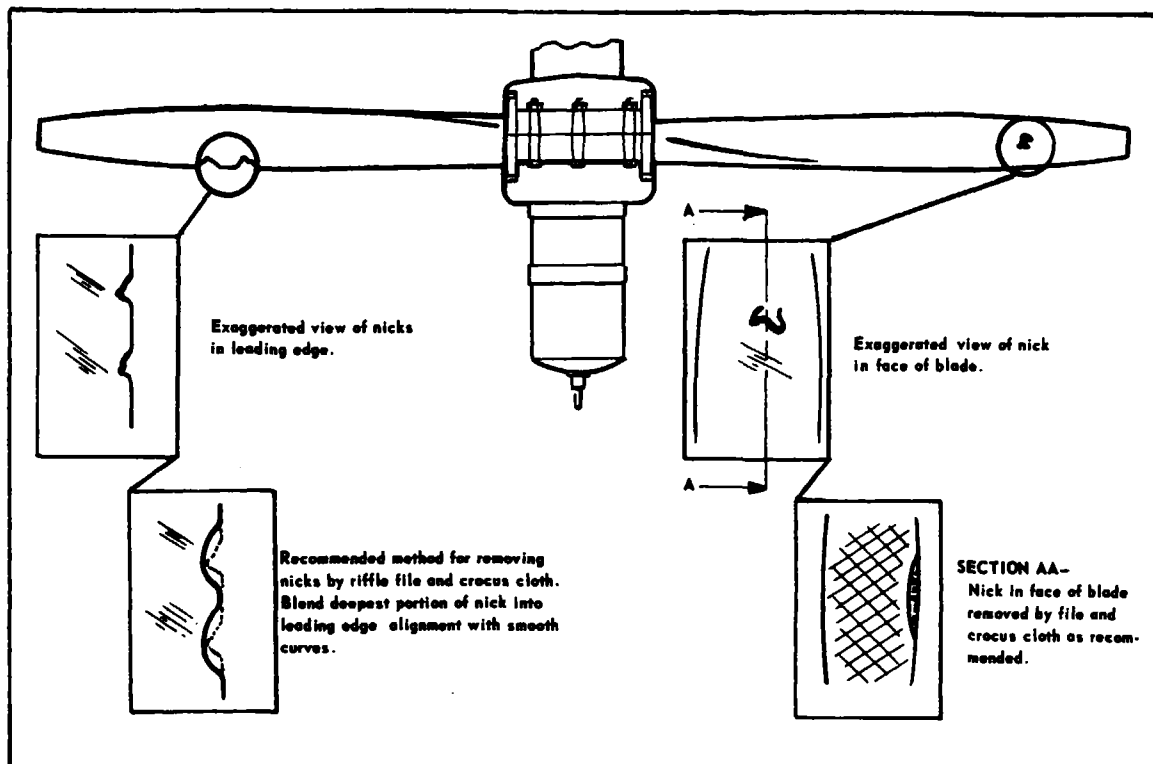

Figure 8-3. Typical Nicks and Removal Method
- g. Inspect blades for damage or cracks. Nicks in leading edges of blades should be filed out and all edges rounded, as cracks sometimes start from such places. Use fine emery cloth for finishing. Refer to Figure 8-3 for propeller blade care.